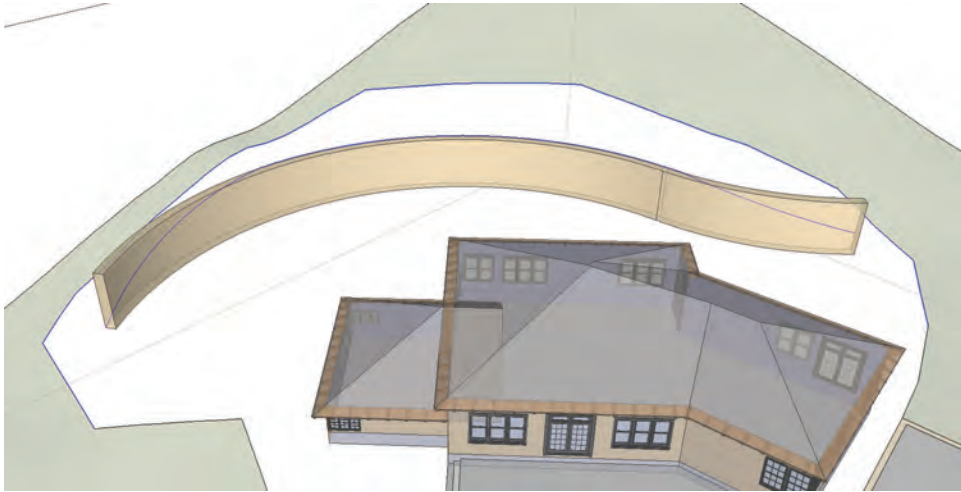

Fig. 15-23: Draw profile lines on the back of walls, the home, and the steps.
1. Draw profile lines on the back of walls, the home, and the steps. The first proposed grade will be grading the back wall to the adjacent terrain (Fig. 15-23).